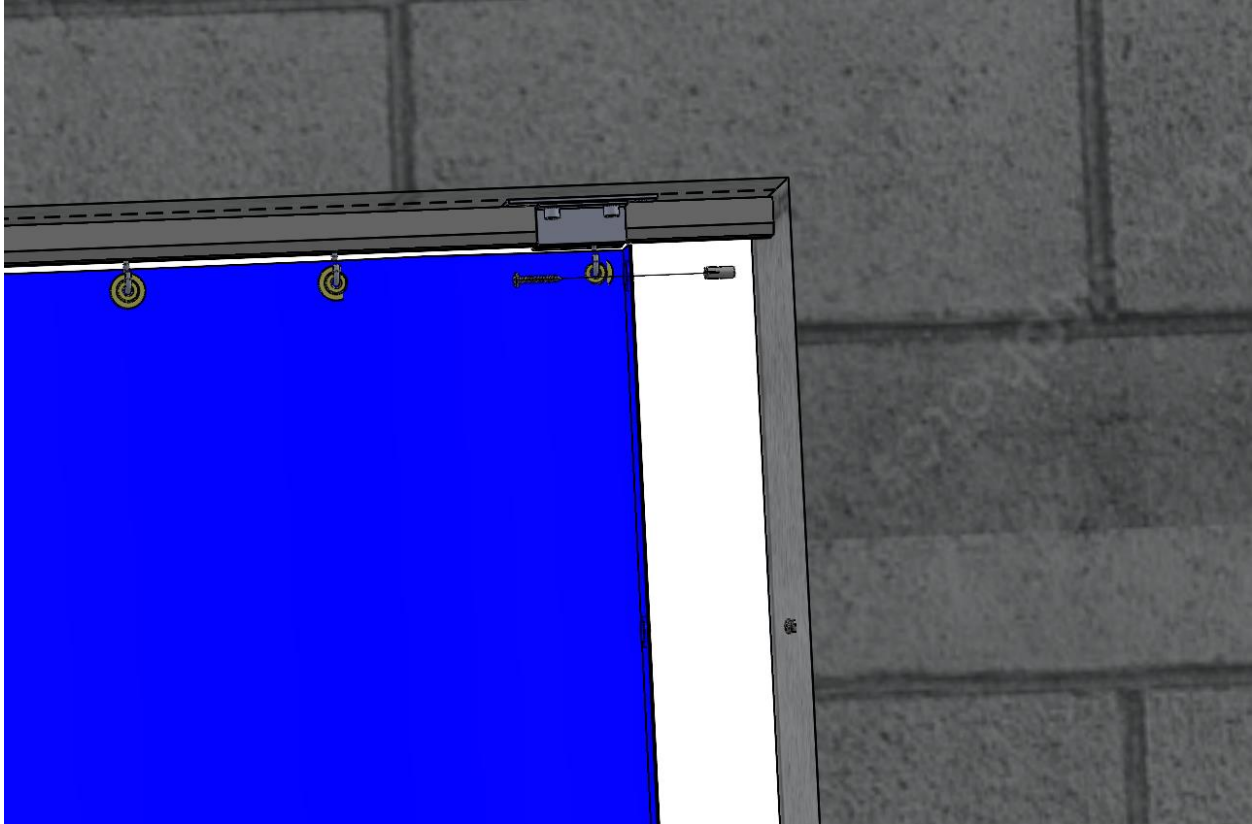

Figure 6 Anchor, Fold and Fasten Curtain to Wall
2. Fold and fasten the free end of the Curtain to the far wall through the Grommets in the Curtain. Screws and anchors are provided. (Figure 6 Anchor, Fold and Fasten Curtain to Wall)
7. When there are no more Cam Locks in the Curtain “Run”, fold and fasten the free end to the far wall through the Grommets in the Curtain. (Figure 6 Anchor, Fold and Fasten Curtain to Wall)